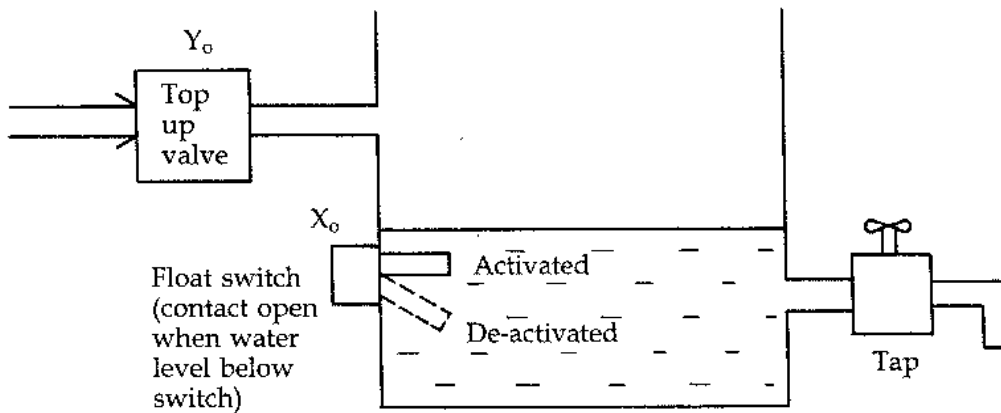

Figure Q6A
- (5)
6. Figure Q6A illustrates a tank of water which is under program control using a PLC. When the water falls below the float switch level, the tank will be topped up automatically by the top-up valve.